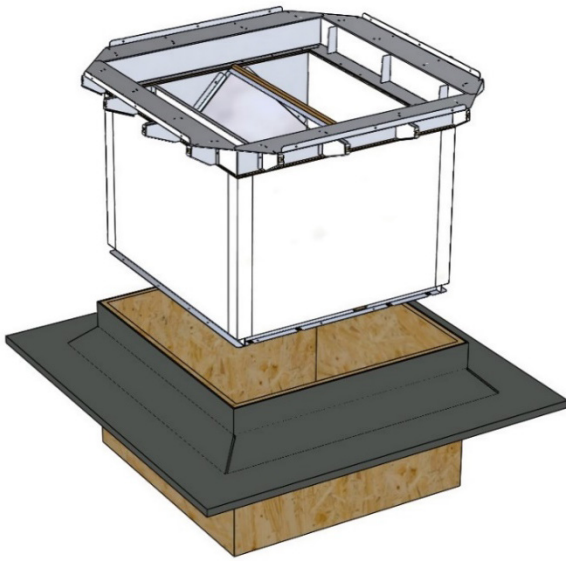

Figure 13 – Heat exchanger position.
1. Insert the heat exchanger in to the timber aperture – *see figure 13.*